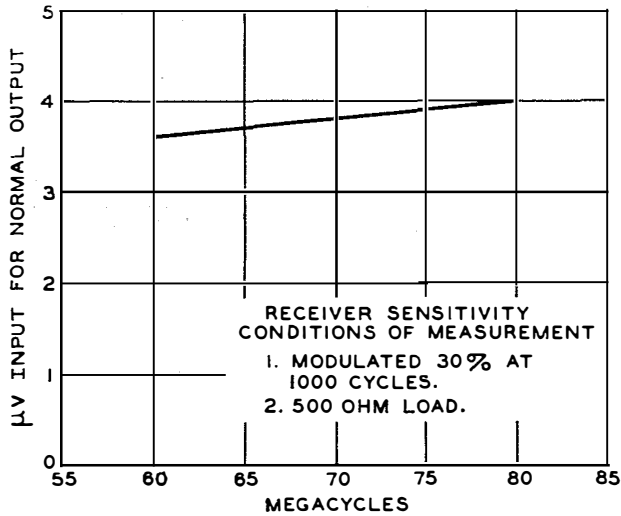

Figure 1-2—Receiver Sensitivity Curve
- (5) Type of modulation—Amplitude (A3).
- (6) Method of modulation — High level plate modulation.
- (7) Modulation capability—80%.
(8) Receiver sensitivity. (Refer to figure 1-2.)